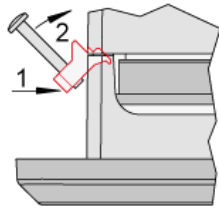

Fig. 15: Attach clamp inserts
5. Re-install the clamp inserts by tilting the insert to a 45° angle. (Fig. 15/1) Insert the nose of the insert into the slot on the side of the housing. (Fig. 15/2) Raise the clamp insert so that it is parallel to the control panel.